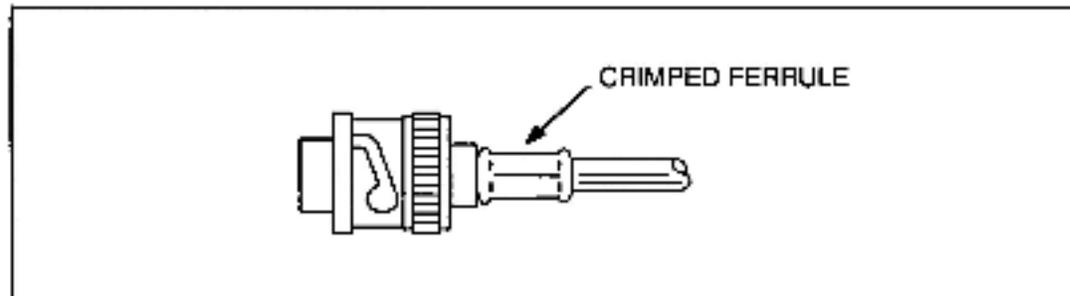

Figure 3.26 - Connector Attached to RG-11/U Cable
- Step 14. Remove the crimped assembly from the crimping dies. The connector is now attached to the coax cable, as shown in figure 3.26.